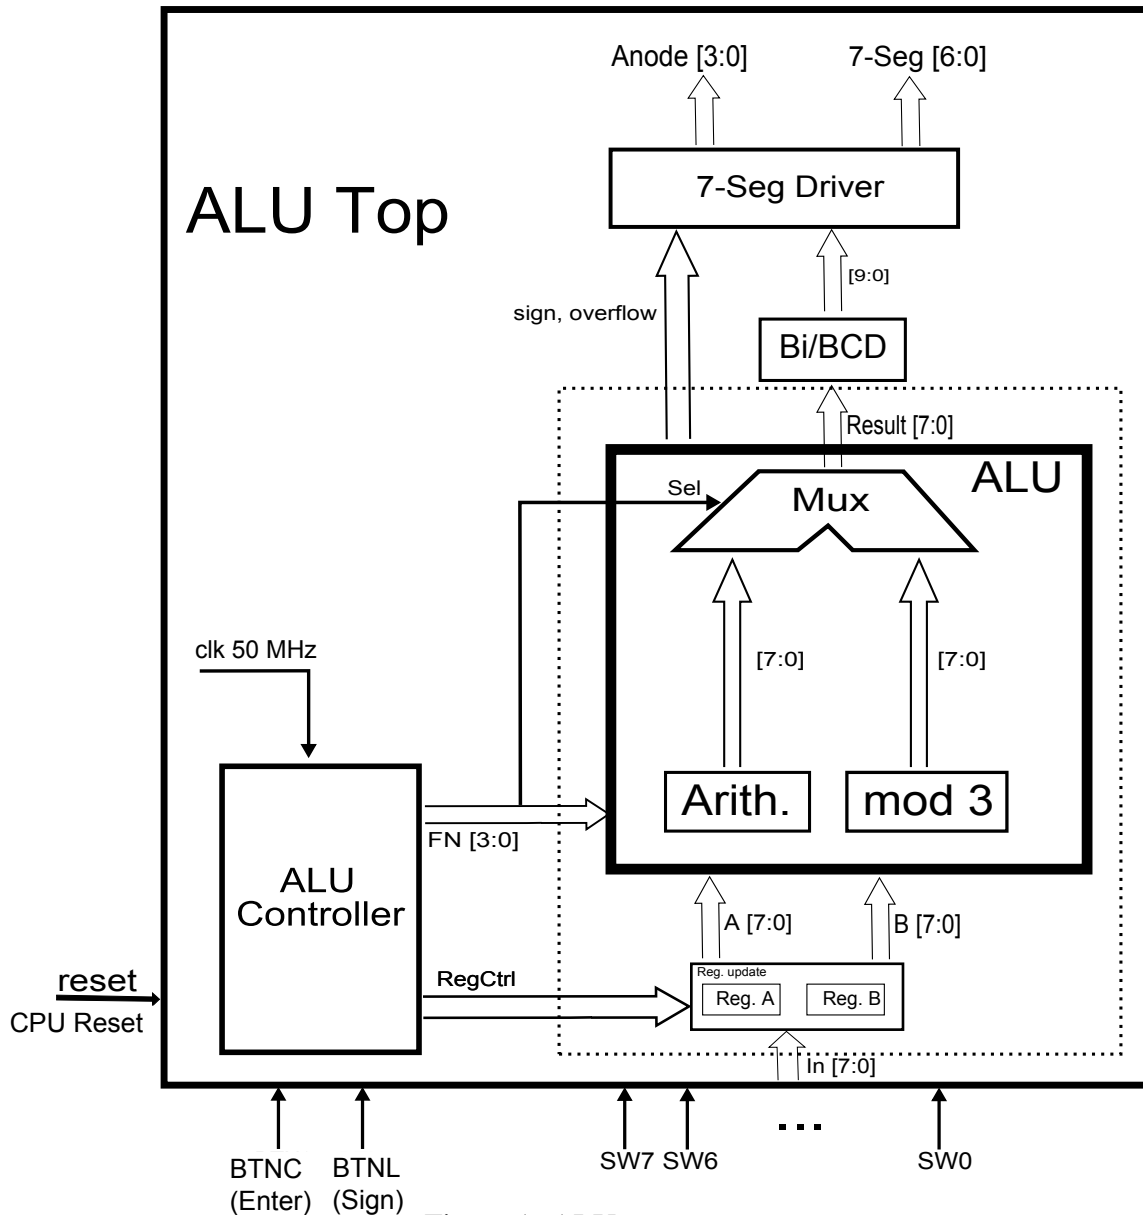

Figure 1: ALU top structure
Looking at the required functionalities, a possible implementation could involve a controller, i.e., a finite state machine (FSM), a data-path containing an ALU, a register block to keep the ALU input operands, a binary to binary-coded-decimal converter (Bi/BCD), and a driver for the 7-segment display. An example of a possible implementation is shown in Figure 1.
**Task 2** Read the paper under the Lab 3 links (i.e. Modulo3.pdf) and focus on Fig. 1 to understand the proposed architecture of unsigned modulo 3 operation. Then, modify this architecture to be able to calculate both **signed** and **unsigned** modulo 3. Try to minimize your additional logics to the architecture in Fig. 1.